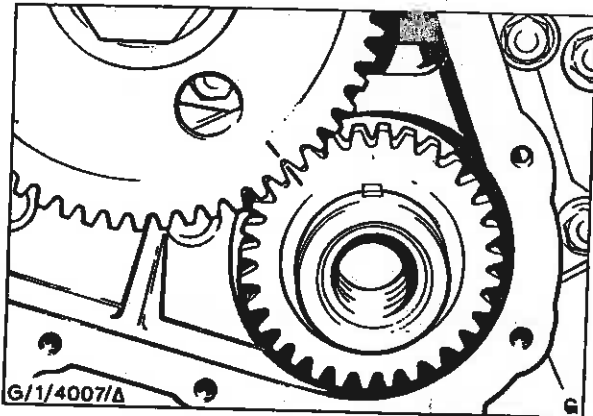

Fig. 57 - Camshaft and Crankshaft Gear Timing Marks in Alignment
33. Rotate the crankshaft and camshaft to bring both shafts in correct relationship to one another so that the timing marks on both gears will line up with one another when the camshaft gear is fitted. Fit the camshaft gear on to the camshaft ensuring that the keyway and the timing marks are correctly aligned - see Fig. 57. DO NOT hammer the gear on to the shaft. If the gear is too tight to fit easily, heat the gear to 82°C (180°F) before fitting it onto the shaft.